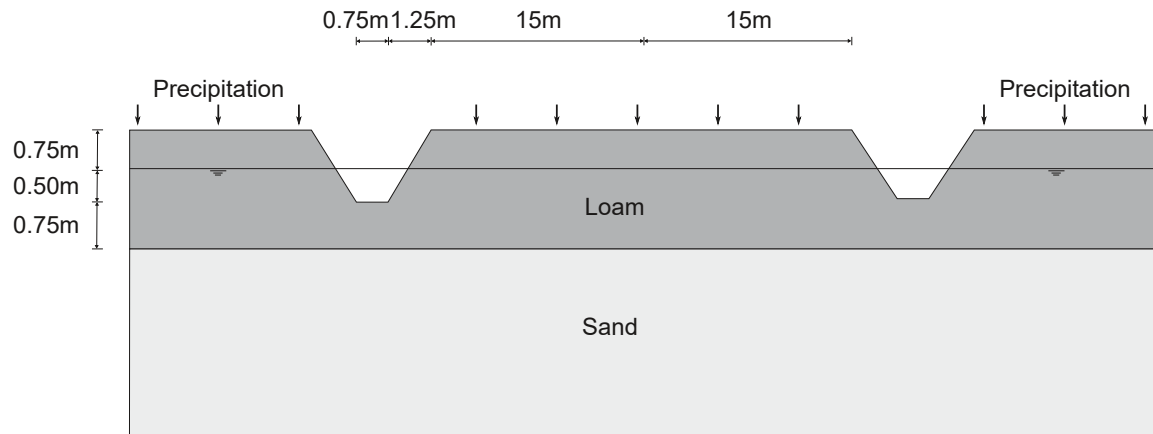

Figure 13–1: Potato field geometry
Due to the symmetry of the problem, it is sufficient to simulate a strip with a width of 15.0 m, as indicated in Figure 13–1 \(p. 205\). The thickness of the loam layer is 2.0 m and the sand layer is 3.0 m deep.
- 1 Click the **Snapping options** button  in the bottom toolbar and snapping window appears as shown in Figure 13–2 \(p. 206\).